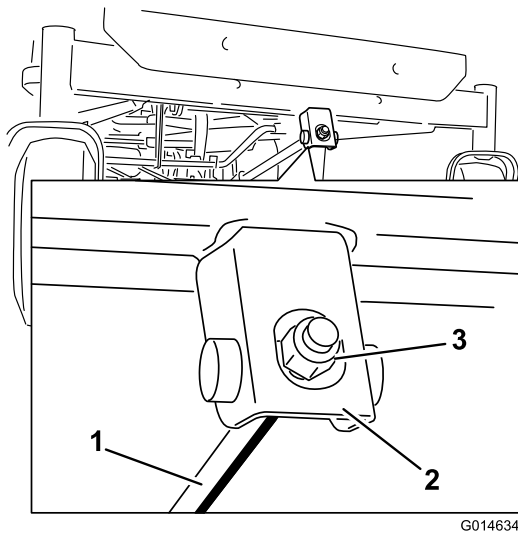

Figure 62
6. To adjust the front-to-rear blade slope, rotate the adjustment nut in the front of the mower (Figure 62).